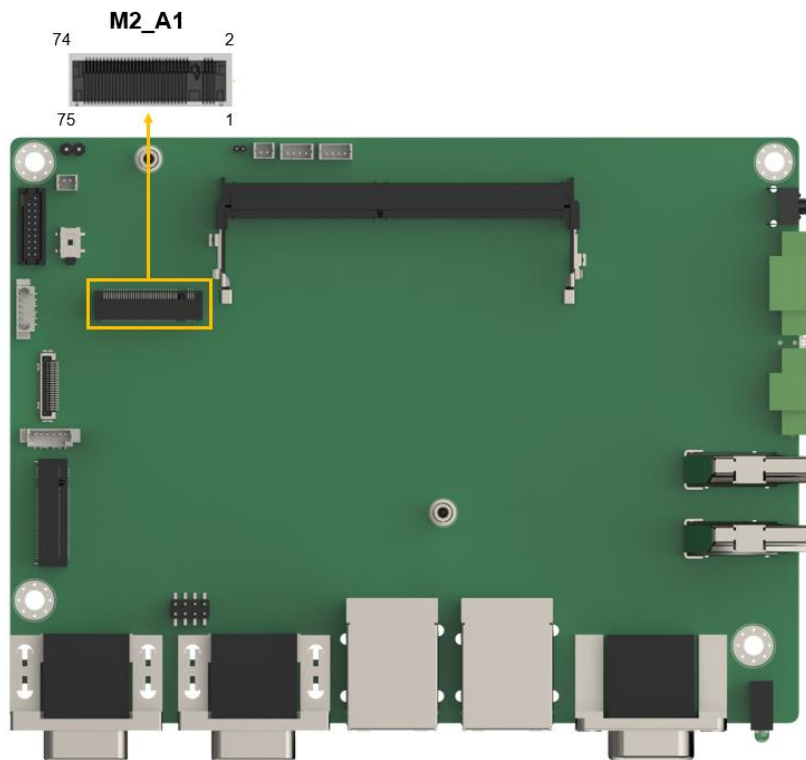

Figure 4-17: M.2 A-key Slot Location
- CN Location:** See **Figure 4-17**